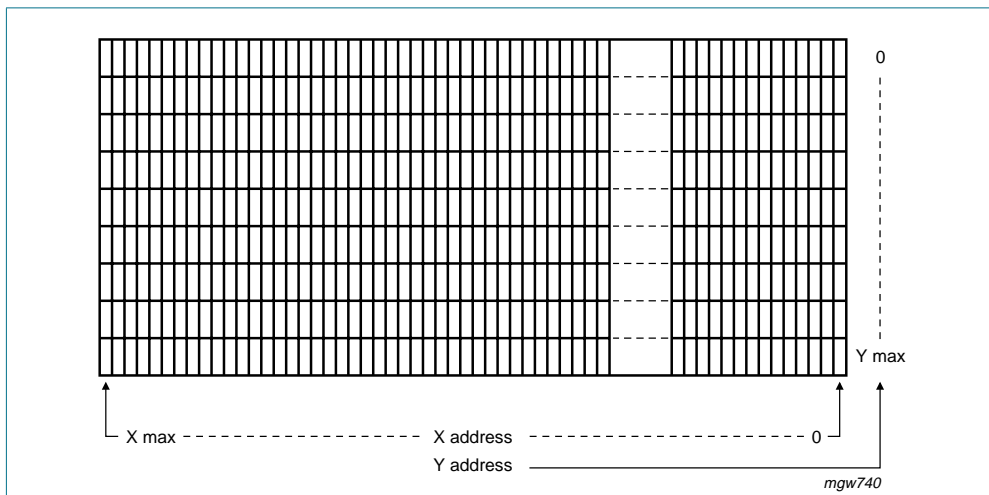
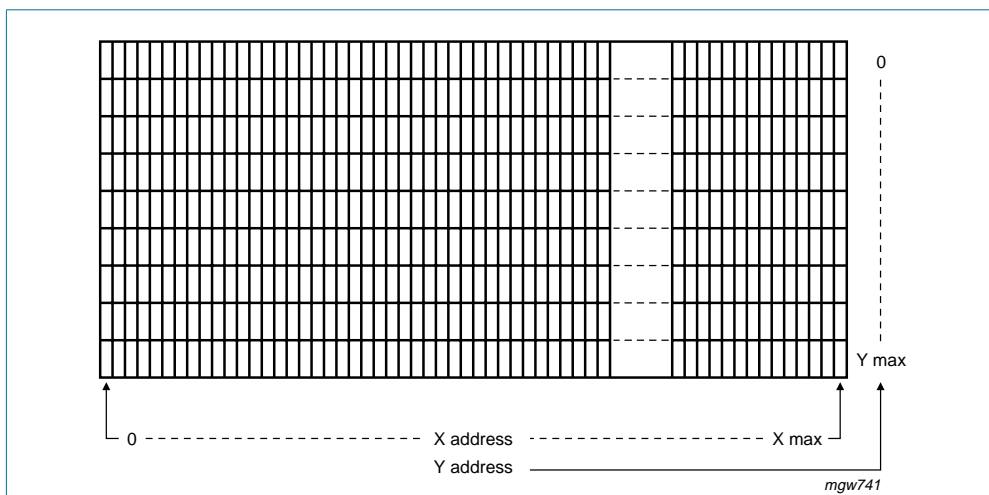

Fig 11. RAM format addressing; MX = 1 (both command sets)
Fig 12. RAM format addressing; MX = 0 (both command sets)
Mirror X (MX): The MX bit allows horizontal mirroring: when MX = 1, the X address space is mirrored; the address X = 0 is then located at the right side (X_{max}) of the display; see Figure 11. When MX = 0, the mirroring is disabled and the address X = 0 is located at the left side (column 0) of the display; see Figure 12.